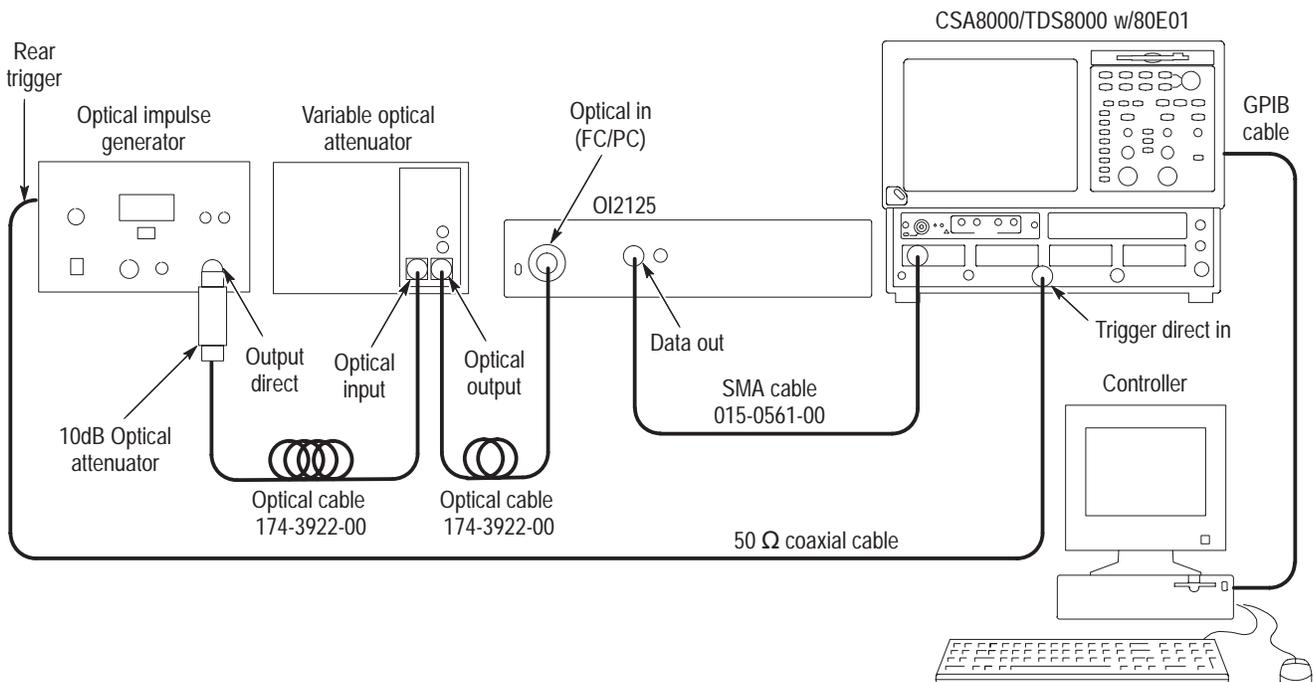

Figure 14: Setup for the bandwidth test
1. Connect the equipment as shown in Figure 14. Use a torque wrench to secure the SMA connections to 7 to 10 lb-in (79 to 112 N-cm).